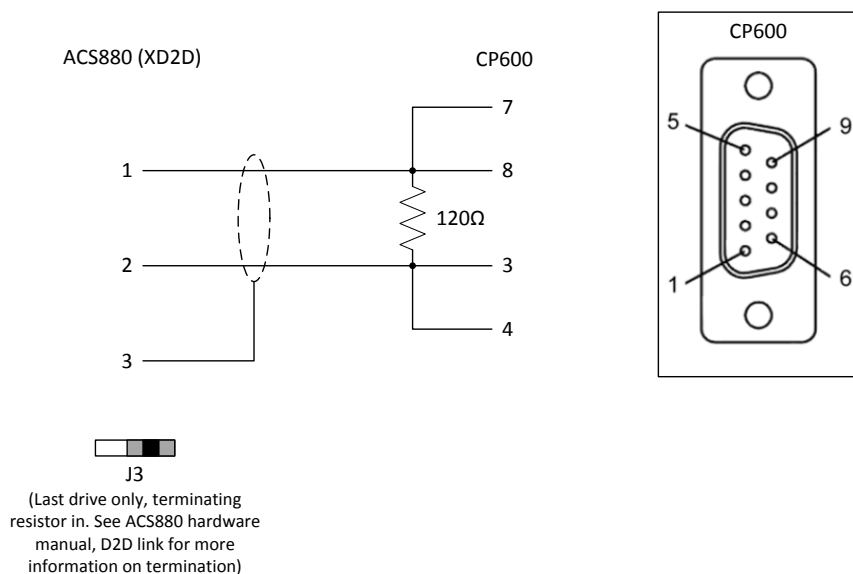

Figure 1- Hardware setup
- e) CP600 compatible serial cable (see Figure 1 in the Hardware Setup section for details)
- 3.3. Connect the serial cable per Figure 1, below. Ensure the terminating jumper (J3) is switched to the right on the ACS880 drive. If more than one ACS880 drives are connected on the RS-484 network only the last drive should have the terminating jumper switched to the right.